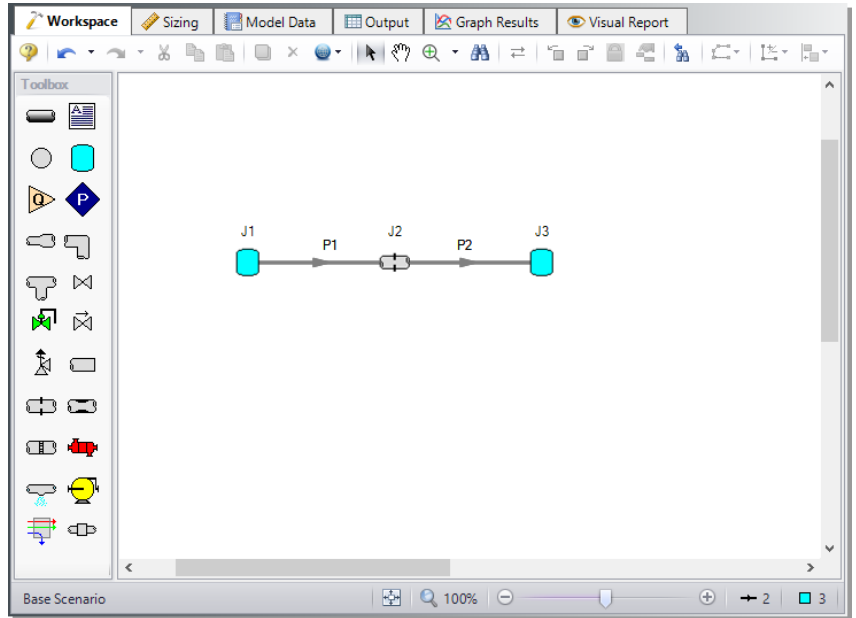

Figure 2.3f Walk through model with all objects placed
- **Activate the Pipe Drawing Tool again**, position the mouse pointer on the J2 Orifice, then press and hold the left mouse button. Stretch the pipe across to the J3 Tank, and then release the mouse button. Your model should now look similar to Figure 2.3f.